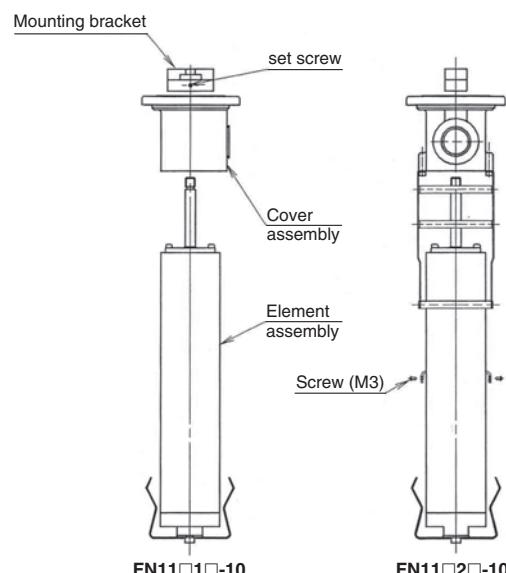

Fig. 4
- 2-5. Remove the mounting bracket inside the cover assembly. [Remove the set screw, and turn the mounting bracket. See Fig. 4]
For FN11□2□-10, two screws are mounted in the middle of the guide assembly [M3 See Fig. 4]